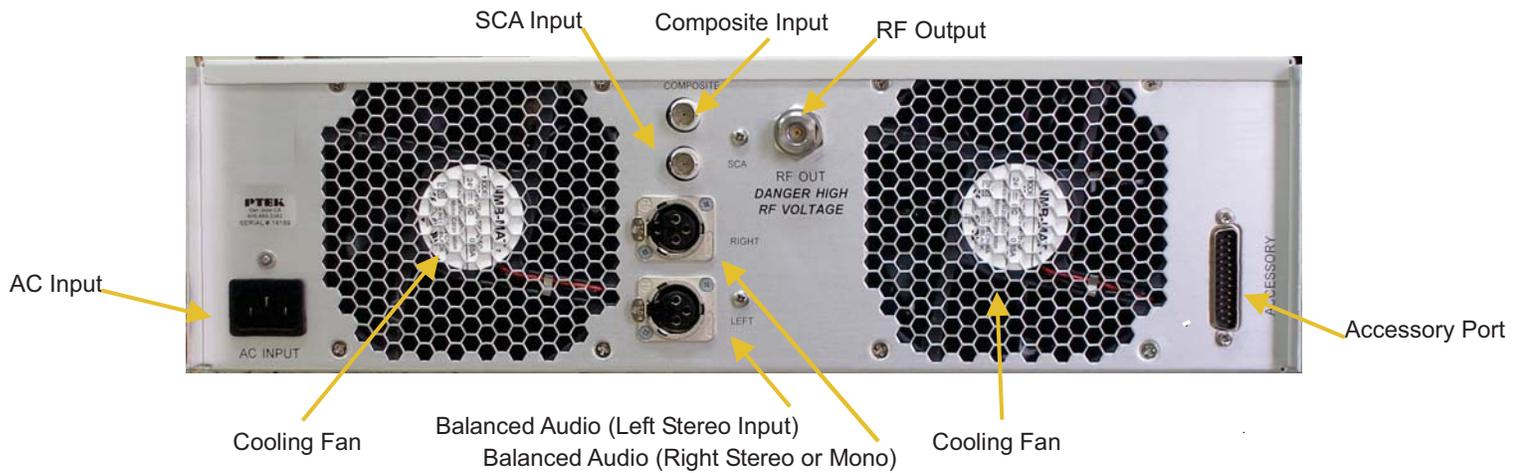

Figure 3-1. ES Series Rear-Panel Connectors
1. Connect the antenna or power amplifier input to the RF output connector on the rear panel of the ES Series (see Figure 3-1 on page 3-2).